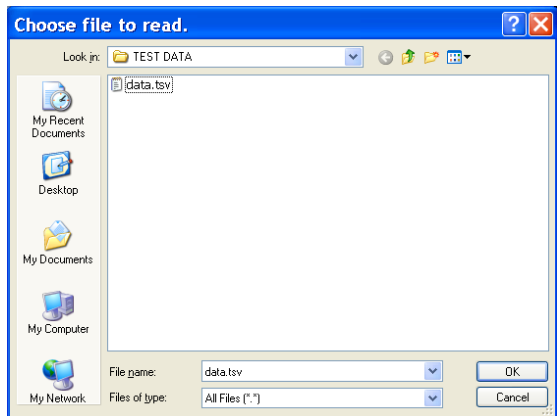

Figure 17. Save File Dialog Box:
- **Save Data as .tsv:** save captured data in .tsv format for future analysis (see Figure 17).